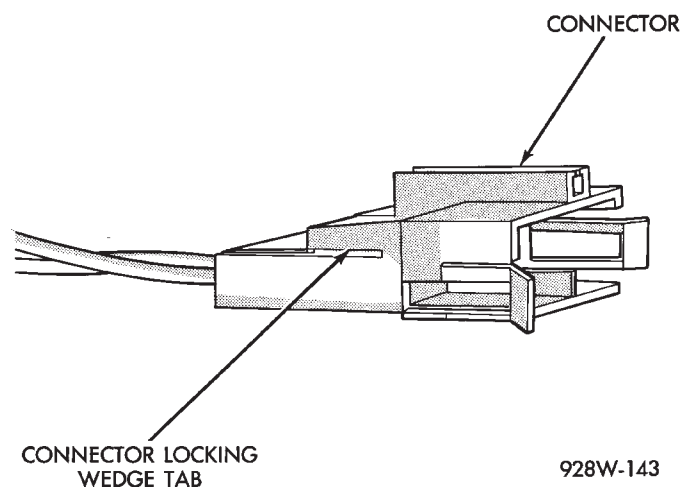

Fig. 7 Connector Locking Wedge Tab
- (1) Disconnect battery.
- (2) Disconnect the connector that is to be repaired from its mating half.
- (3) Remove connector locking wedge (Fig. 7).
- (2) Disconnect the connector being repaired from its mating half.